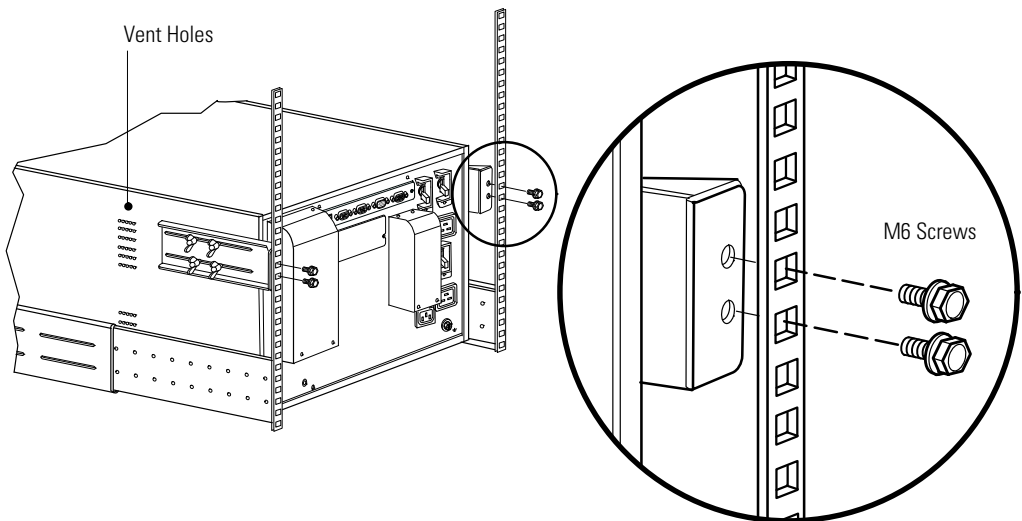

Figure 23. Securing the Optional UPS Seismic Mounting Brackets
17. If the optional seismic mounting brackets are installed, secure the brackets on the UPS to the rack using four M6 machine screws as shown in Figure 23.